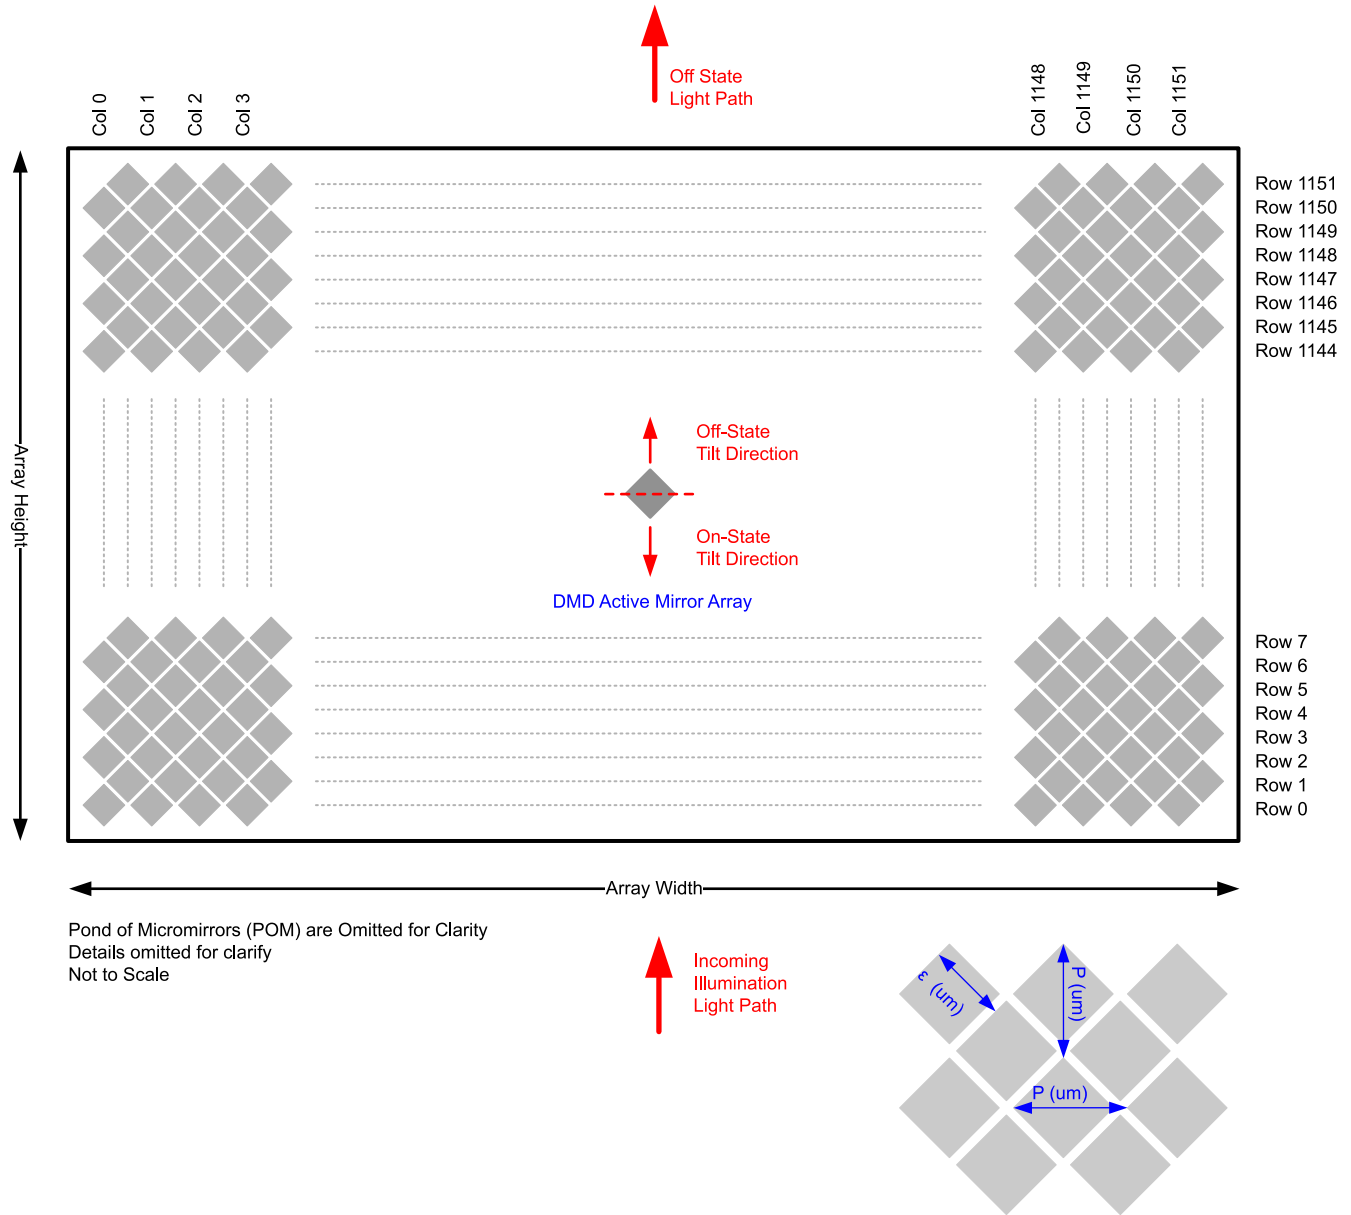

图 6-13. Micromirror Array Physical Characteristics
(1) See 图 6-13
(2) The structure and qualities of the border around the active array includes a band of partially functional micromirrors called the POM. These micromirrors are structurally and/or electrically prevented from tilting toward the bright or ON state, but still require an electrical bias to tilt toward OFF.
The DLP5530S-Q1 Automotive DMD consists of 1,327,104 highly reflective, digitally switchable, micrometer-sized mirrors organized in a two-dimensional array. As shown in Figure 6-13, the micromirror array consists of 1152 micromirror columns × 1152 micromirror rows in a diamond pixel configuration with a 2:1 aspect ratio.